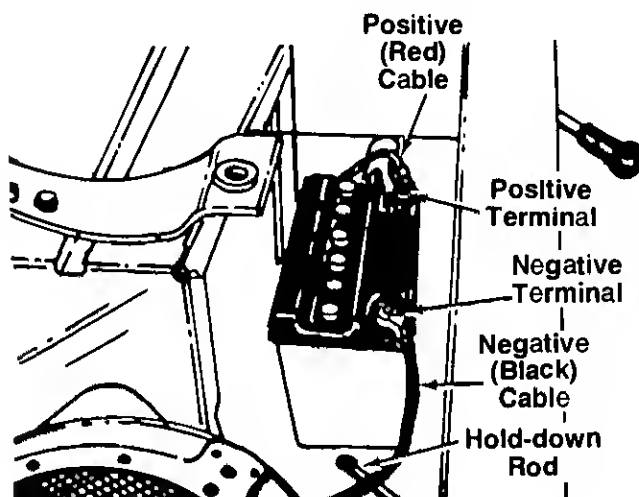

FIGURE 13.
1. Hook the battery hold-down rods into the holes in the frame. See figures 13 and 14.
2. Place the battery in the rider with the positive terminal to the front. The negative terminal goes to the rear of the unit. See figure 13.
4. Place the negative (heavy black) cable on the negative terminal. Secure with bolt, nut and lock washer provided with battery. See figure 13.